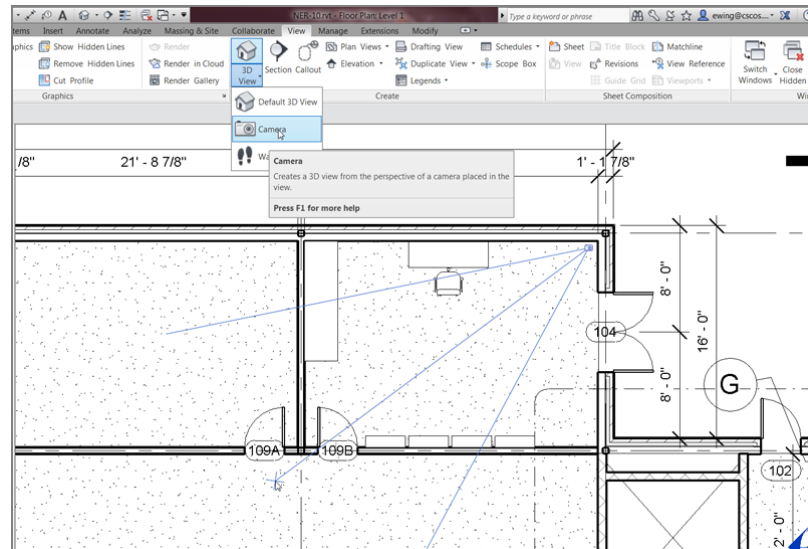

FIGURE 9.51: Adding a camera (perspective view) to the corner office
3. Pick a second point beyond the southwest corner, as shown in Figure 9.51. The new view opens. You'll probably want to stretch the crop boundaries.